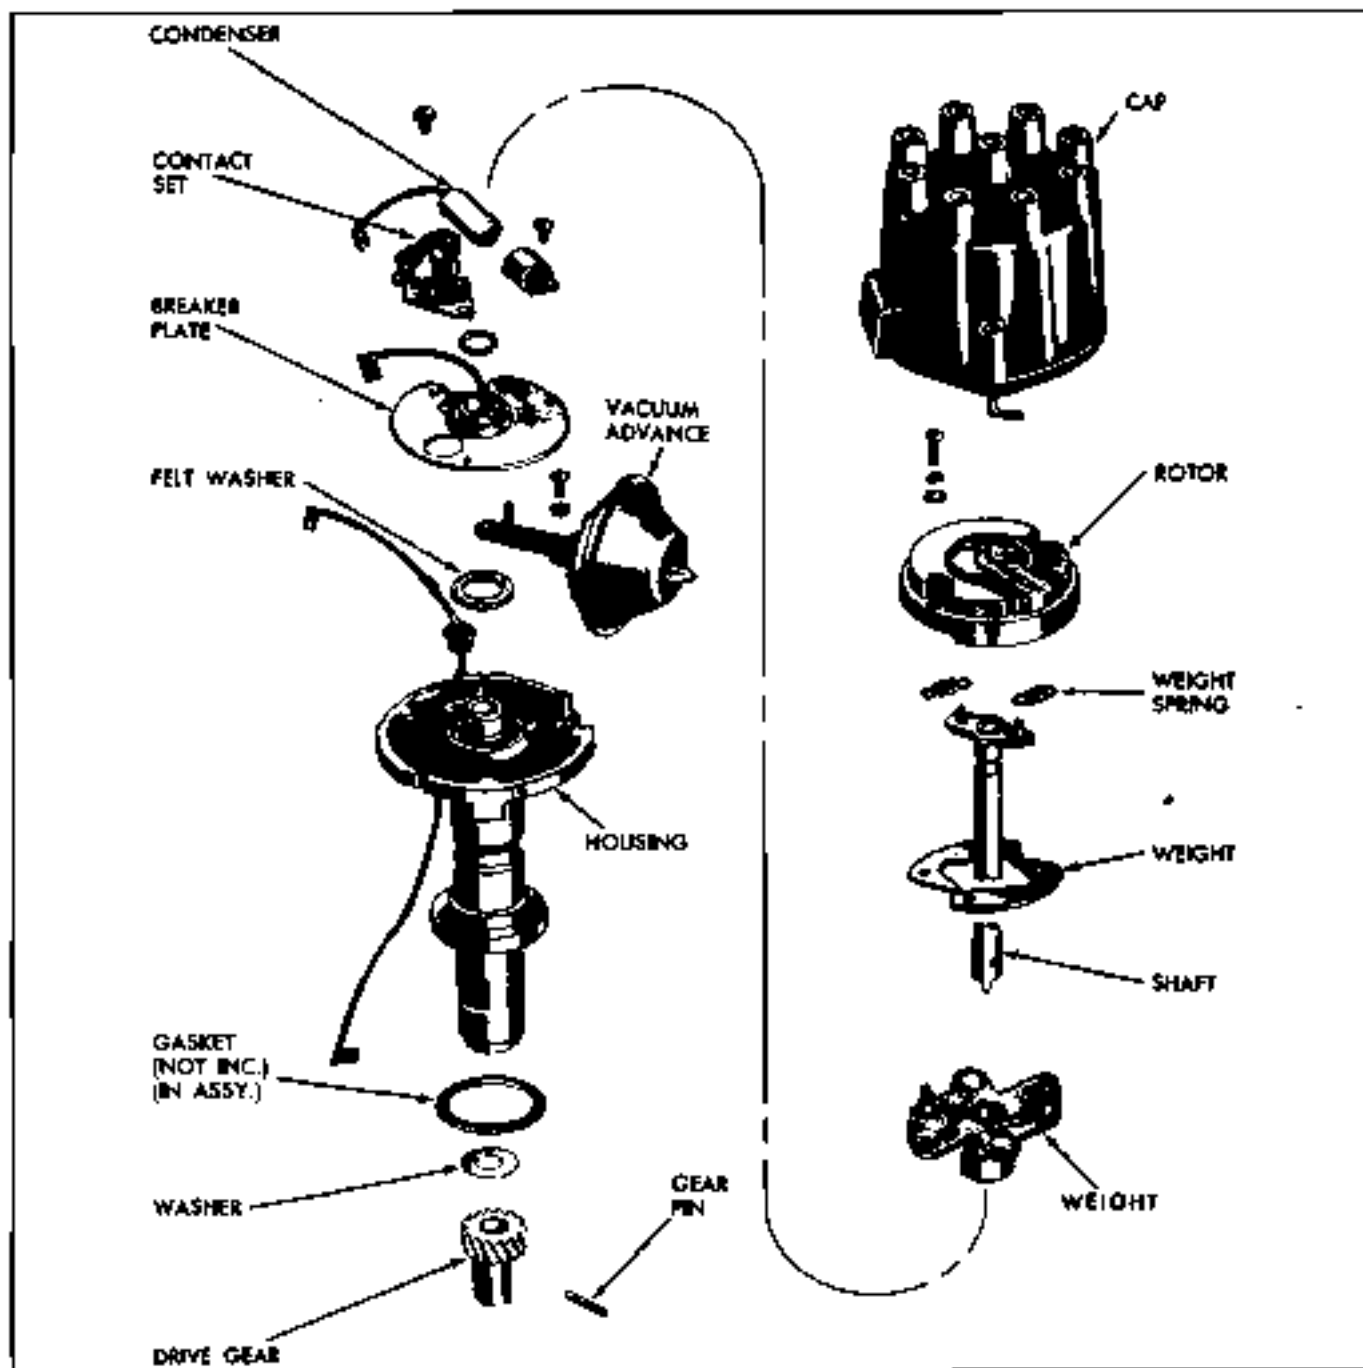

Fig. 6E-30 Exploded View of V-8 Distributor
1. Check to see that engine is at firing position for No. 1 cylinder (No. 1 piston at top of compression stroke) and timing mark on harmonic balancer is indexed with the proper mark on the timing chain cover (Fig. 6E-34)
3. Install distributor in block so that vacuum diaphragm faces left side of engine and rotor points toward contact in cap for No. 1 cylinder. Before installing distributor, index rotor with housing as noted when distributor was removed. This will simplify indexing distributor shaft and gear with oil pump drive shaft and drive gear on camshaft. Distributor and rotor will be positioned as shown in Fig. 6E-31 when properly installed with No. 1 piston in firing position.